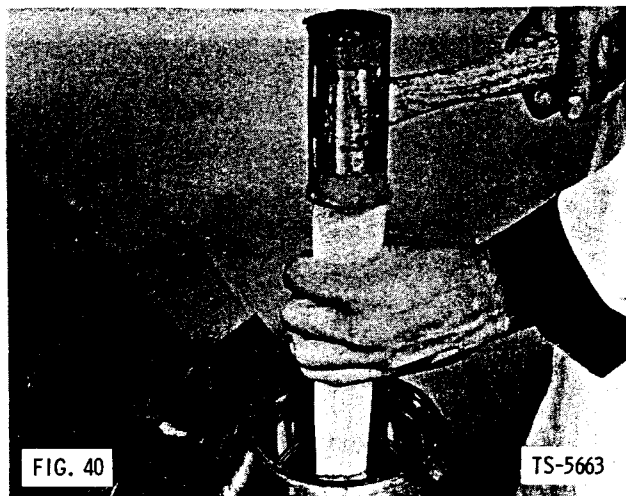

FIG. 40
42. If trunnion bearings cups require replacement, drive trunnion grease retainer out of bearing bore (Fig. 40).